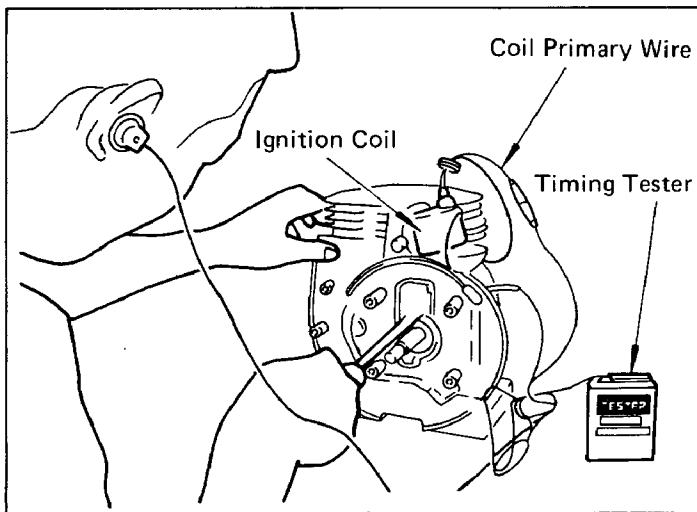

Fig. 43
The spark is timed to occur at 23° before the piston reaches TDC on the compression stroke. This spark advance of 23° is controlled by the breaker point opening and this advance is obtained when the breaker point opening is adjusted according to the **BREAKER POINT ADJUSTMENT** to its proper point opening. However, the advance timing is more accurately adjusted through the following procedures using a timing tester as shown in Fig. 43.
- 3) Connect the timing tester lead with red rubber cap to the coil primary wire and ground the lead with black rubber cap to the crankcase. (See Fig. 43.)
While the points are open, the buzzer within tester remains ringing and when the points are closed, the tester remains silent. (See Fig. 43.)
- 7) By rotating the support plate of the breaker point, find the exact point when the buzzer within timing tester starts ringing from being silent. (See Figs. 43 and 44.)